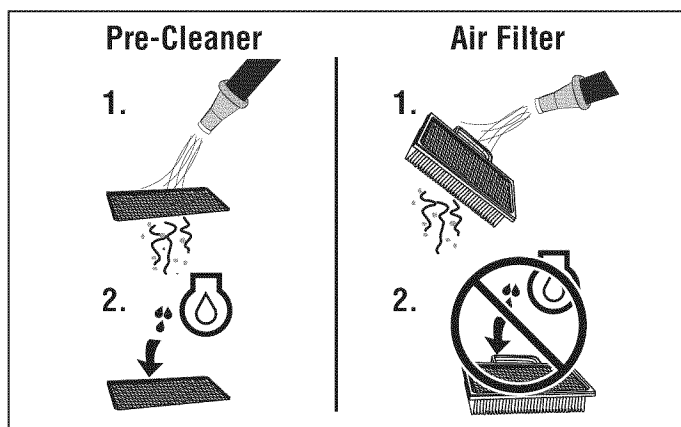

Figure 27. Air Filter Service
1. Figure 27. Wash the pre-cleaner in liquid detergent and water.
1. Figure 27. If stamped "Washable," the filter can be washed with warm water and mild soap.